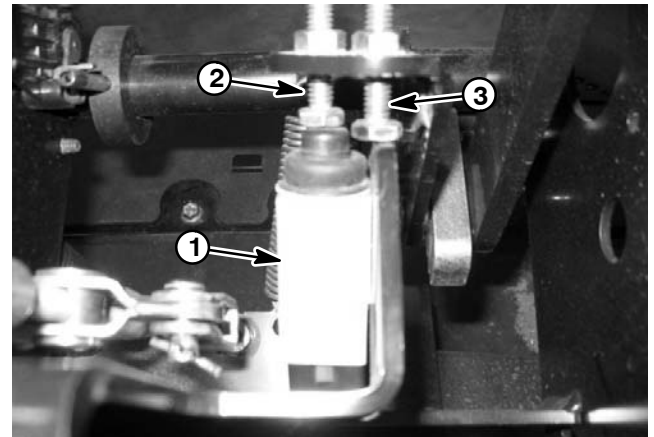

Figure 11
2. Make sure that at complete brake pedal travel, the park detent and pawl are fully engaged. If needed, adjust the accelerator pedal stop cap screw to allow full engagement (Fig. 11).
5. If distance is incorrect, loosen lock nut and adjust accelerator switch stop cap screw position (Fig. 11).